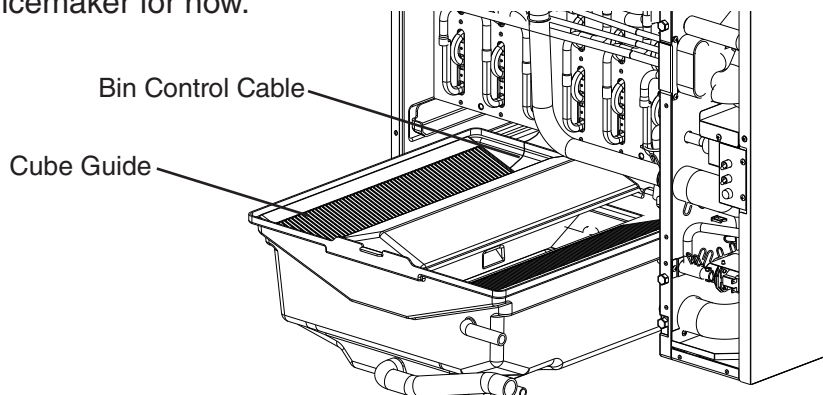

Fig. 8
- 3) Pull out the water tank only as far as shown in Fig. 8.